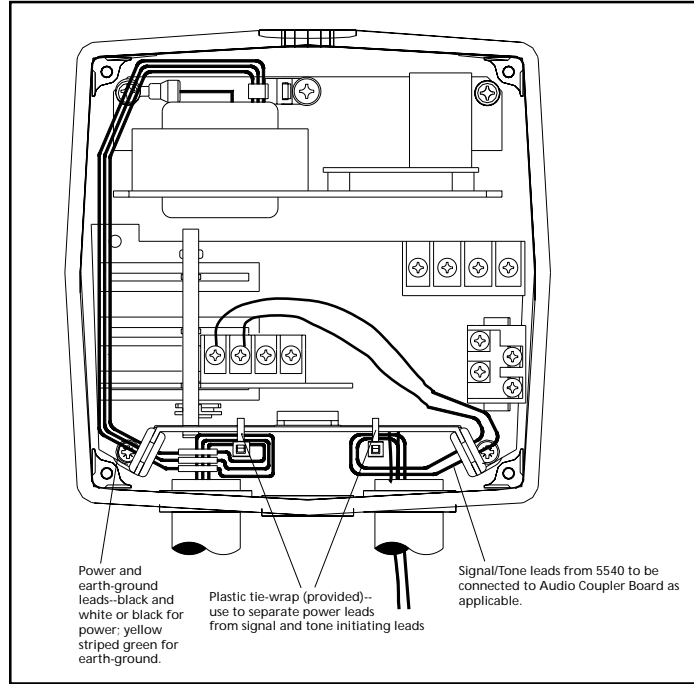

Figure 4. Wiring the Adaptatone
- 2. Install wires through a knockout hole in the bottom of the box from a raceway that is, with its connections to the 1/2" (12.7 mm) conduit knockout hole, approved for the same degree of protection and enclosure type needed by the application. Use the provided plastic tie-wrap, on the barrier to the electronics, to separate incoming power leads from signal and tone initiating leads, per NEC (Figure 4).
- 3. Wire as follows referring to Figure 4.